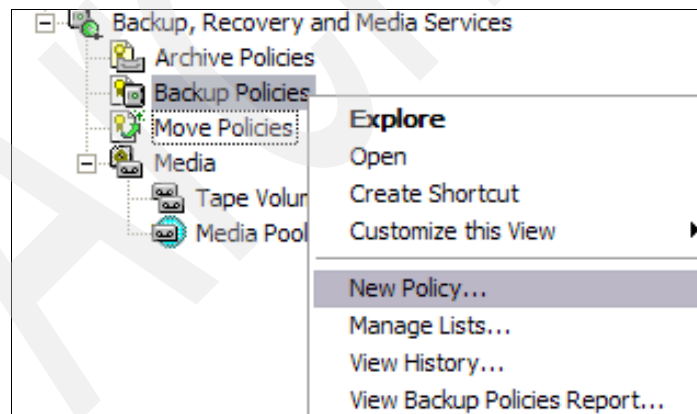

Figure 7-4 Create new move policy
1. Right-click Backup Policy and select **New Policy**, as shown in Figure 7-4.